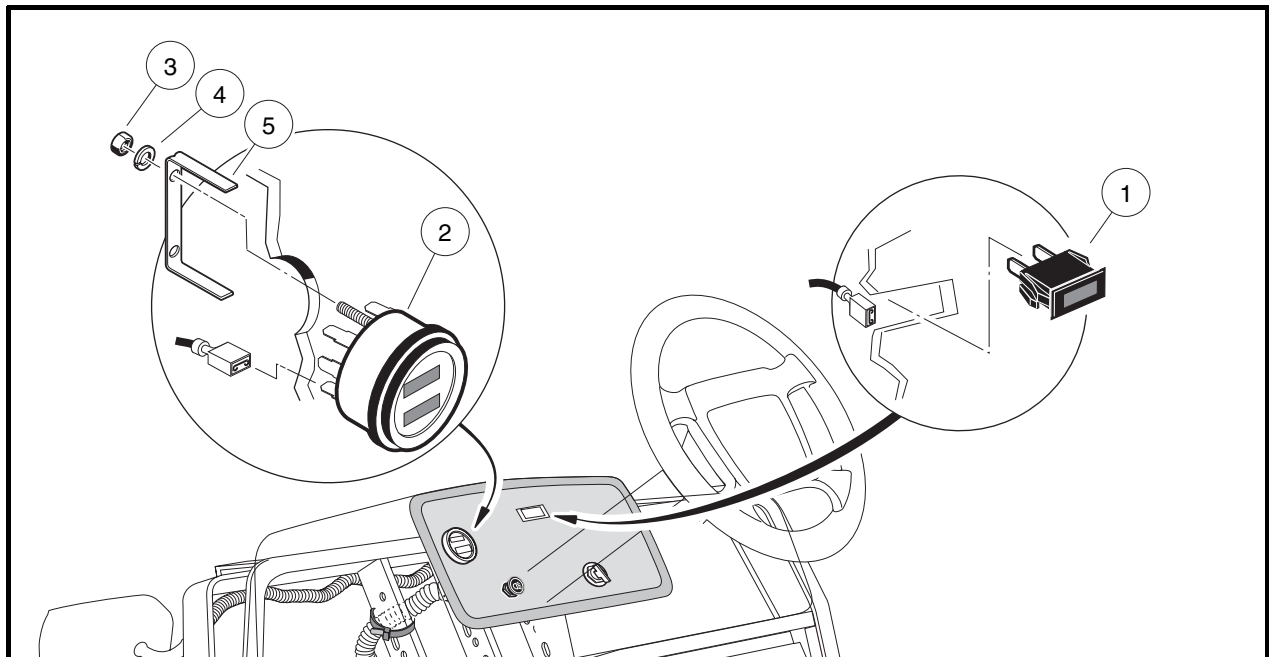

Figure 12a-9 Fuel Gauge/Hour Meter and Low Oil Warning Light Installation
4. Disconnect the wires from the low oil warning light (1) (**Figure 12a-9, Page 12a-9**).
1. Push a new low oil warning light into the hole in the instrument panel until the plastic tabs are securely engaged (**Figure 12a-9, Page 12a-9**).